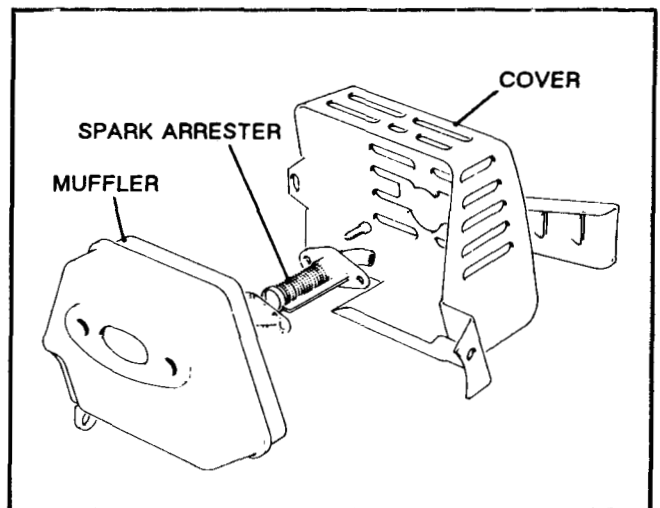

Figure 165
2. Remove the two screws securing the spark arrestor to the muffler. See Figure 165